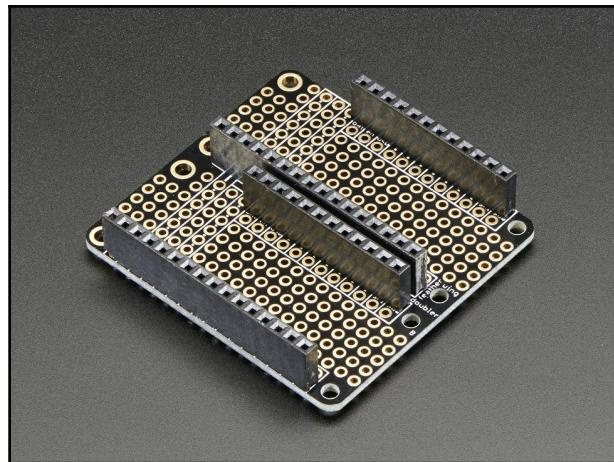

Figure 8.4: Adafruit FeatherWing Doubler - prototyping add-on. Image courtesy of Adafruit Industries (<https://www.adafruit.com>)
1. Using four aluminum standoffs, attach the FeatherWing Doubler - Prototyping Add-on to the base plate (*Figure 8.4*):